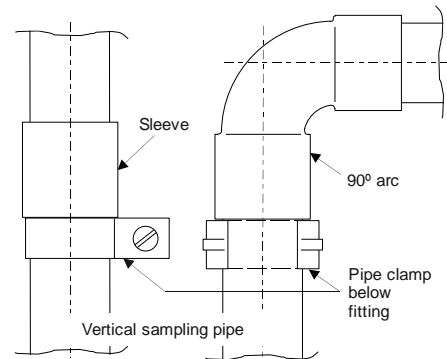

Fig. 8 Vertical sampling pipe
- For vertically arranged sampling pipe or parts thereof (e.g. in a riser or high-rack storage building) make certain that the tubes cannot slide down (fasten pipe clamps directly under fittings as shown in **Fig. 8**).